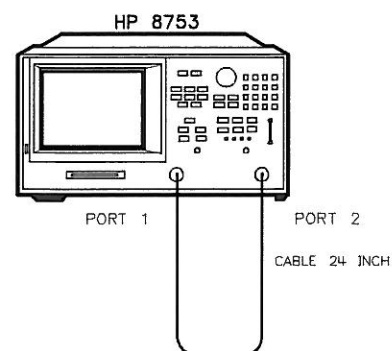

Figure 1-34. Transmission Calibration Test Setup
18. Connect the equipment as shown in Figure 1-34.